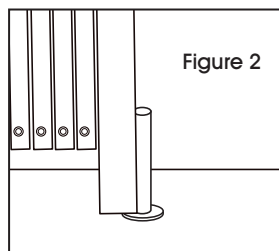

Figure 2
2. Have a helper extend the gate and stand it upright where it will be mounted. Drill 3/4" diameter x 3" deep hole, 1 1/4" from wall into the floor for gate pin to set into. Place a bearing washer over floor hole and set bottom gate pin into floor mount hole. (See Figure 2)